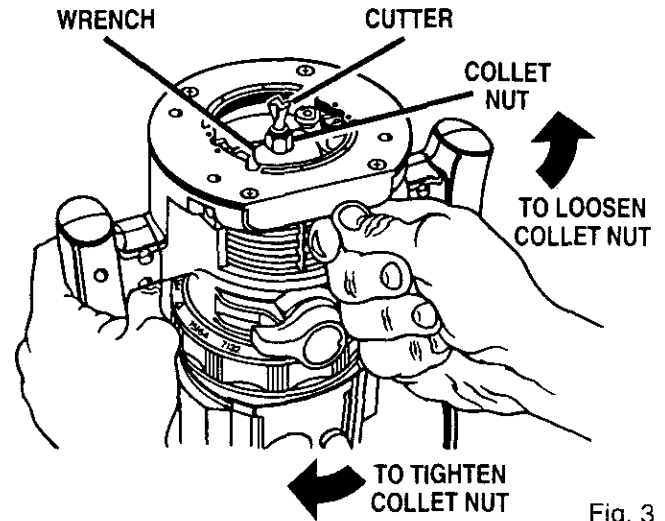

Fig. 3
■ Place your router upside down on table, then turn collet nut with wrench until lock mechanism interlocks. See Figure 3.
■ Remove cutters by turning collet nut counter-clockwise enough to allow cutter to slip easily from collet. See Figure 3.
Tighten the collet nut securely by turning clockwise with the wrench provided. *See Figure 3.*